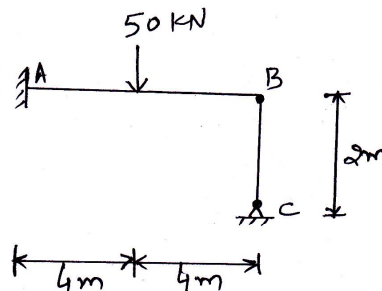

Fig. 6
- Q.5** (a) Obtain the rearranged joint stiffness matrix of a composite structure shown in Figure 6. AB is a beam member with cross-section of 100 mm x 100 mm while BC is a truss member with 30 mm x 30 mm square cross section. Modulus of elasticity of beam and truss member is 20GPa and 200 GPa, respectively. **07**